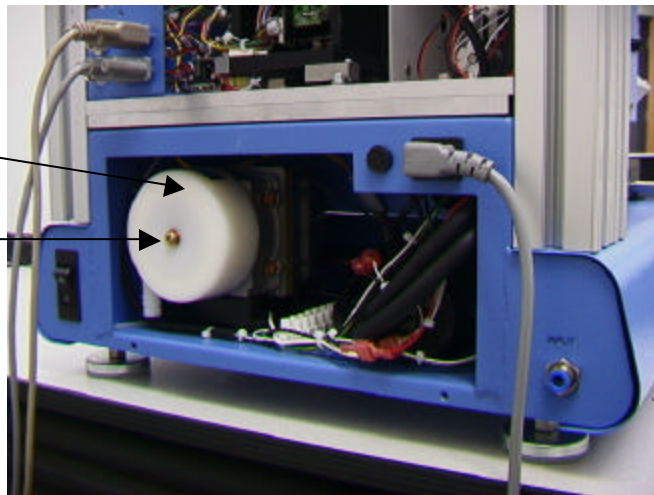

Figure 21
- i. Open the cover on the back of the TF 1500. (Figure 21)